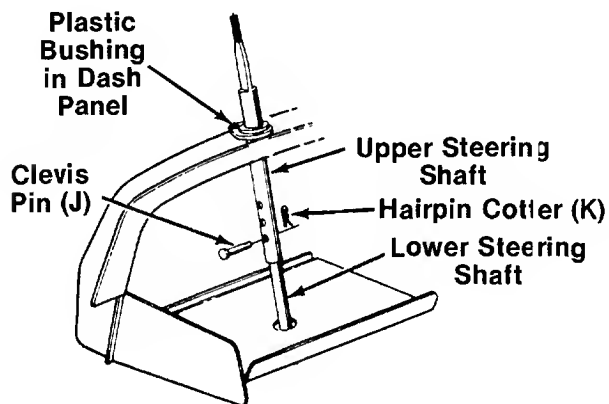

FIGURE 10.—Model 698 Shown
1. For shipping purposes, the upper steering shaft is pushed all the way down over the lower steering shaft. Pull the upper steering shaft up. The three holes in the shaft provide three steering wheel heights. Select desired hole and secure with clevis pin (J) and hairpin cotter (K). See figure 10.